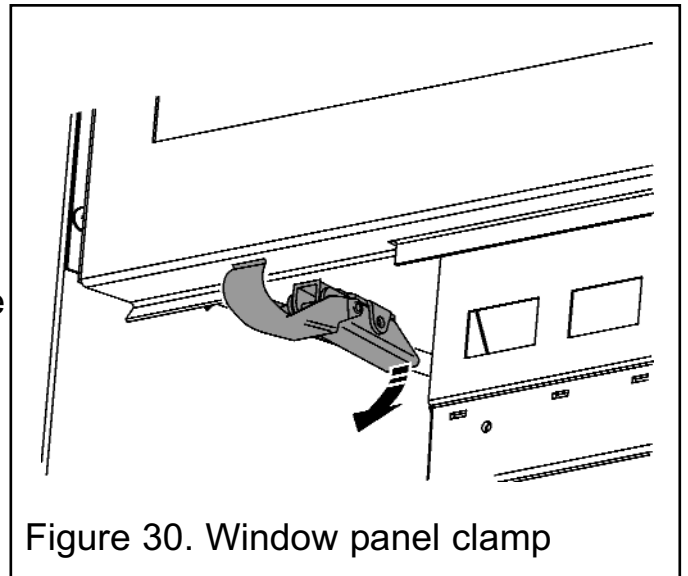

Figure 30. Window panel clamp
2. The window panel is secured at the bottom with two clamps. To release the clamps, hold at the rear and pull down (See figure 30).